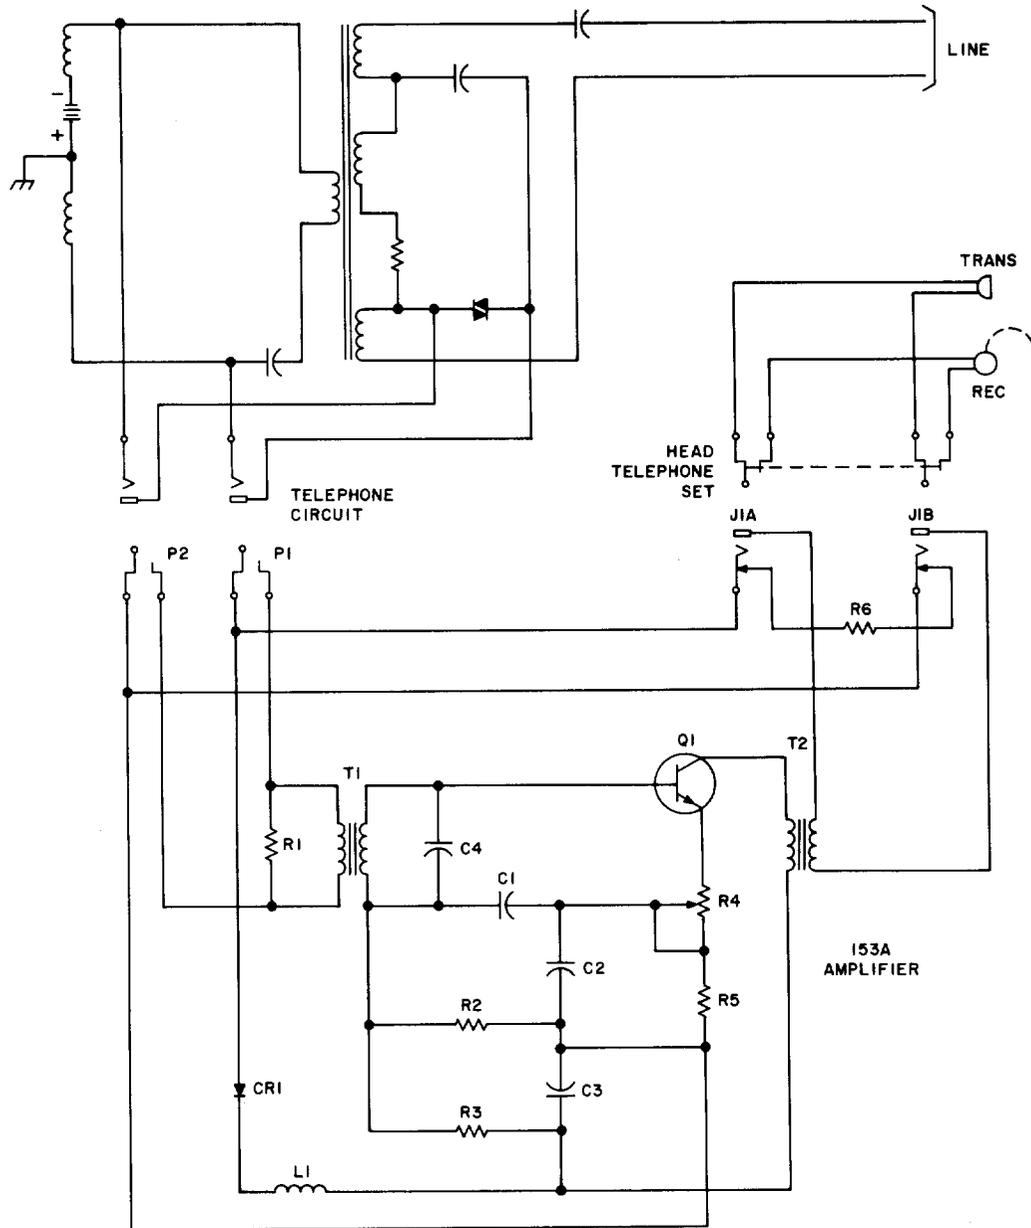

Fig. 4—Schematic of the 153A Amplifier in Normal Telephone Circuit
3.01 In normal use, the transmitter of the head telephone set is in parallel with the amplifier power leads and acts as a shunt to limit the battery supply to approximately 5 volts as shown in Fig. 4. To prevent damage to the transistor due to voltage overload when the head telephone set is removed from the amplifier jacks, a 50-ohm shunt is bridged across the tips of the jacks. The insertion of this amplifier entails a loss of no more than 1 dB in the transmitting circuit.